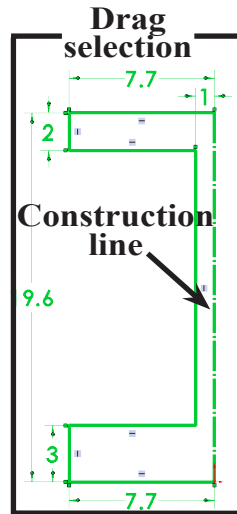

Fig. 5
- Step 9. **Drag selection around the sketch** to select all entities (lines and dimensions), **Fig. 5**. To drag selection, click above and to left of sketch and drag down and to right to drag around all.